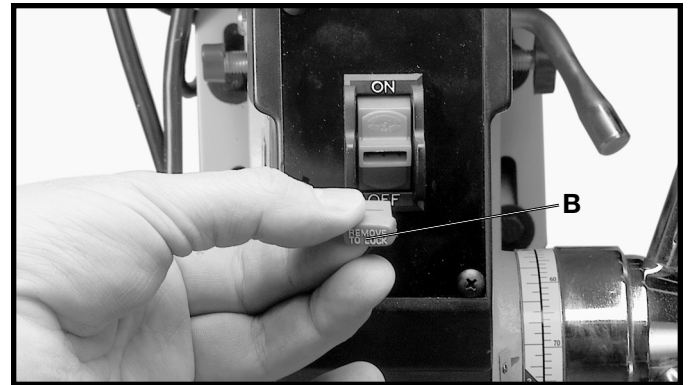

Fig. 21
**IMPORTANT:** When the machine is not in use, the switch should be locked in the “OFF” position to prevent unauthorized use. This can be done by grasping the switch toggle (B) and pulling it out of the switch, as shown in Fig. 21. With the switch toggle (B) removed, the switch will not operate. However, should the switch toggle be removed while the drill press is operating, the switch can be turned “OFF” once, but cannot be restarted without inserting the switch toggle (B).